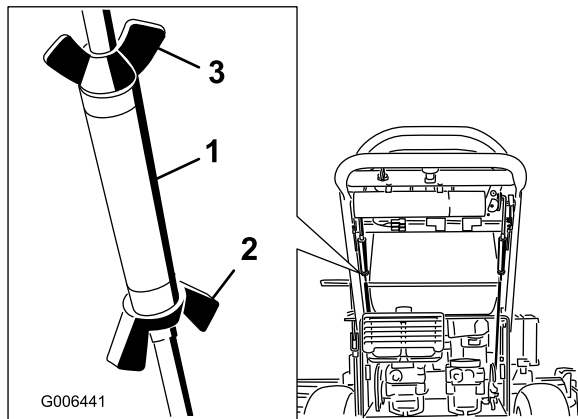

Figure 30
3. Secure the turnbuckle in position with the wing nuts (Figure 30).
5. Secure the turnbuckle in position with the wing nuts (Figure 30).